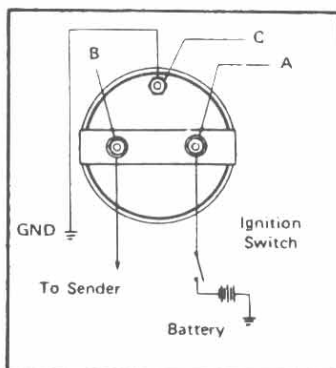

FIGURE 1
- Figure 1, **THREE TERMINALS**: (A) for wire to ignition, (B) for wire to sending unit, (C) for wire to ground (and for Lighting Kit 29711, if lighting is desired).